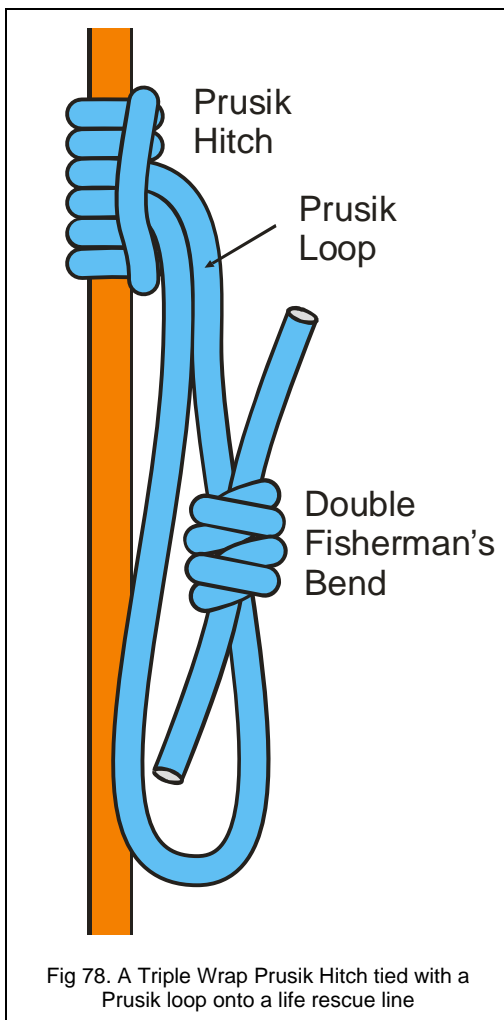

Fig 78. A Triple Wrap Prusik Hitch tied with a Prusik loop onto a life rescue line
- Used with a Prusik loop to form a movable attachment of a rescuer to a life rescue line as shown in figure 78.